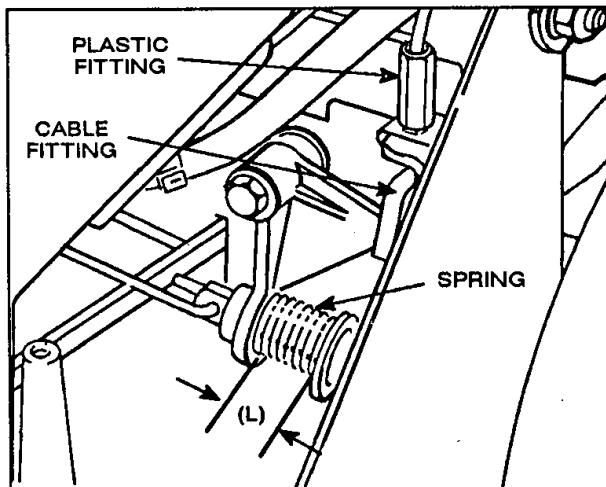

Figure 26
3. Move control bar down and lift up against handle. With control bar against handle, measure spring length (L) at the front of the spring as shown in figure 26.
5. To adjust, rotate plastic fitting on blade brake cable (Fig. 26) until spring dimension is as near as possible to but not less than 1". (See following note.)